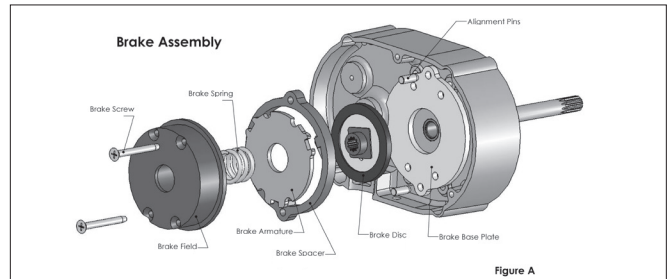

Figure 13: Brake Assembly
The brake is non-adjustable with a nominal .004 inch (0.102 mm) air gap and the brake disc must be replaced when the air gap reaches .012 inch (0.305 mm). The brake spacer should be no more than .012 inch (0.305 mm) thicker than the combined thickness of the brake disc and armature plate. Refer to Figure 13.
1. Refer to Figure 13 and disassemble the brake. Depress and hold the field assembly while removing the four brake screws. The field assembly is under spring pressure and will spring-out if not held. Examine the base plate, brake disc) and armature for excessive wear, scoring or warpage. Make sure the brake disc is not glazed, the coil firmly fixed in the field) and the brake spring is not damaged. Worn, scored, warped, glazed or damaged parts should be replaced before proceeding.
2. Refer to Figure 13 and assemble the brake. Depress and hold the field assembly while installing the four brake screws through the brake parts and mount the brake on the gear housing. Tighten the four brake screws to 25 in.lb.